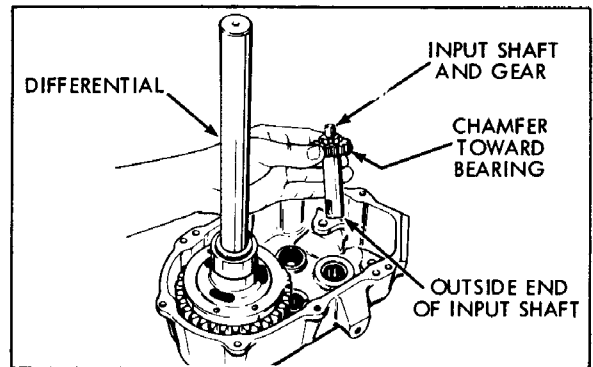

Figure 2-9
10. Remove the differential. (Fig. 2-9)
11. Tap the input shaft out of the case. (Fig. 2-9)